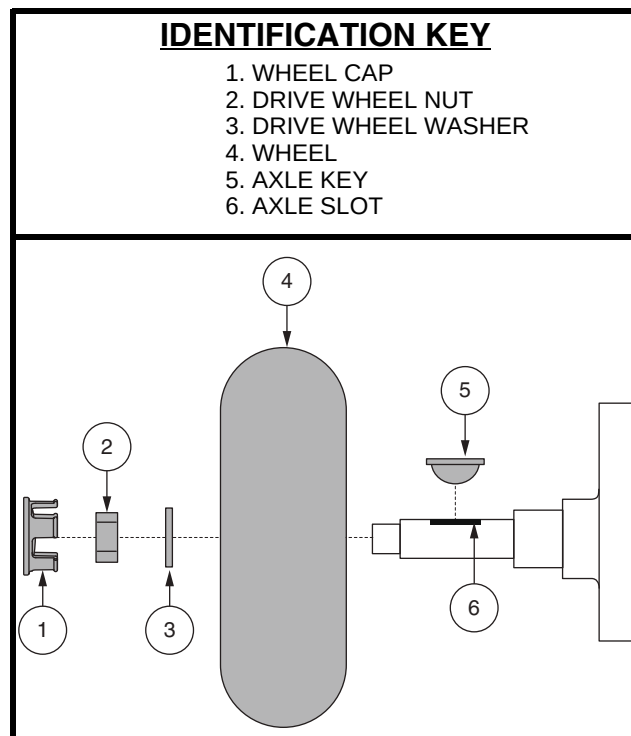

Figure 24. Wheel Removal
3. Remove the wheel cap, drive wheel nut and washer from the axle. See figure 24.
4. Remove the drive wheel nut and washer from the axle. See **figure 24**.
9. Slide the wheel back onto the axle. Make sure that the axle key is in the axle slot. See **figure 24**.